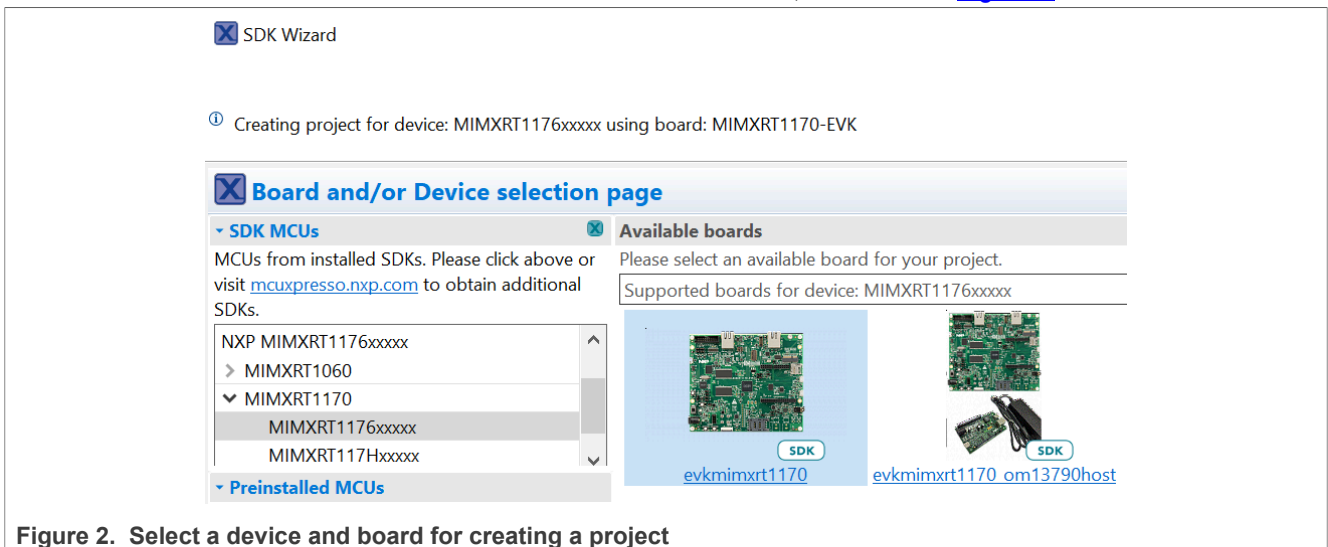

Figure 2. Select a device and board for creating a project
2. Select MCU **MIMXRT1170** and then the board **evkmimxrt1170**, as shown in Figure 2.